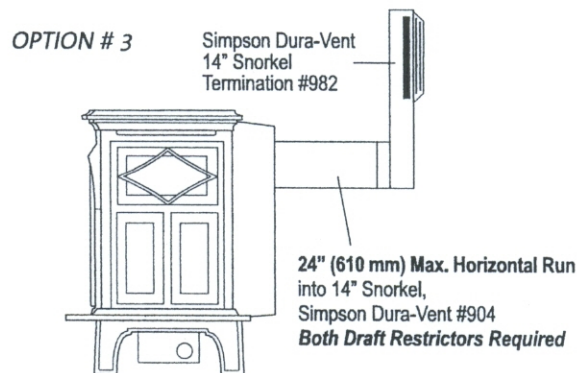

Figure 12-3. Maximum horizontal run to a snorkel termination.
- The maximum horizontal run made directly off the rear of the stove into a 14" snorkel cap (#982) must be no more than a 24" section of Simpson Dura-vent (#904). See Figure 12-3.